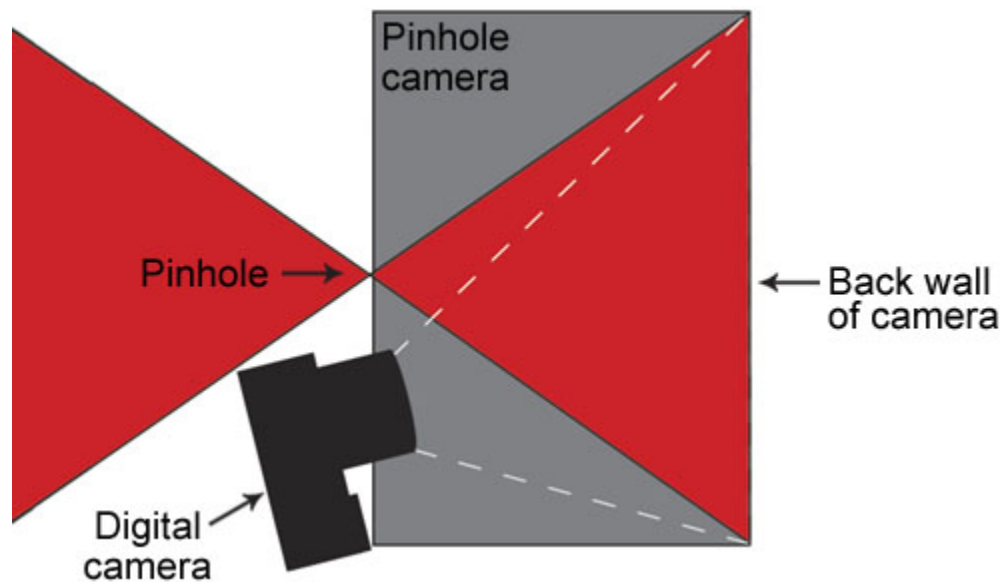

Figure 1. Diagram of a lightbox-type digital pinhole camera (Hanft, 2005).
If your digital camera does not have removeable lenses, you will use the "lightbox" (or *camera obscura*) method. With the lightbox, the pinhole projects an image onto a screen at the back of the box. Your camera takes a picture of this screen, through a small, light-tight "window" at the front of the box (see Figure 1, below).
- e. Also, remember that the camera needs to be tilted down slightly so that it does not block light entering the pinhole (see Figure 1 in the Introduction).